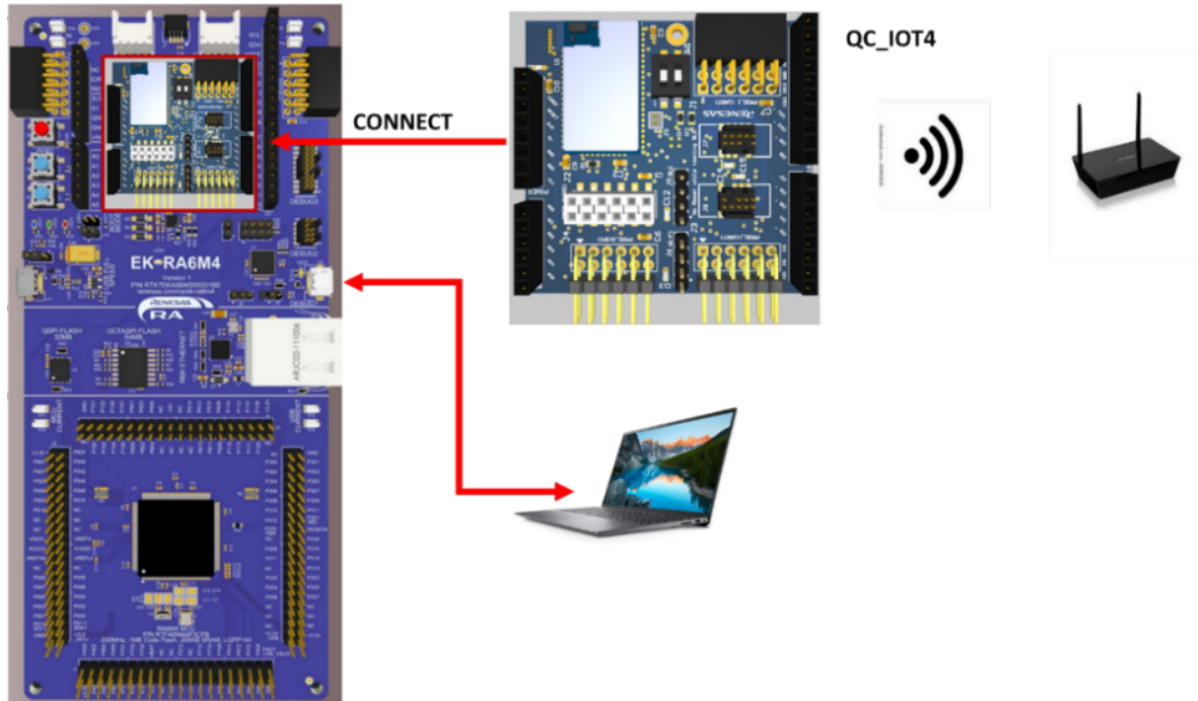

Figure 3. Evaluation Kit Connections with RA6M4 EVK
4. Connect the QC-IOT4 board to the MCU board (see Figure 3).
Use the following procedures to set up the kit connections with RA6M4 EVK as shown in Figure 3.
2. Connect the QCIOT4-DA16600POCZ board with MCU as shown in Figure 3.
4. Connect the USB debug port of RA6M4 to the PC as shown in Figure 3.